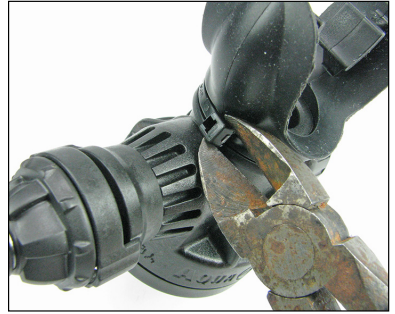

Figure 19
2. Remove the black clamp with side cutters and discard (*Fig. 19*).